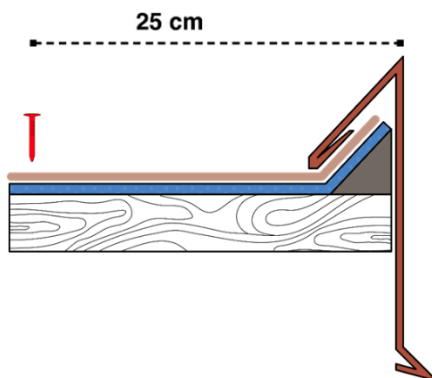

Fig. 5 - Lateral flashing detail with triangular wooden batten
- Alternatively, fix a triangular-section batten along the lateral edge of the roof, before the membranes/underlay. Position the membrane/underlay above the triangular batten and lay the shingle on top, cutting it at the vertex of the batten. Once the pitch is completed, apply a perimeter metal flashing over the shingles - Fig. 5.